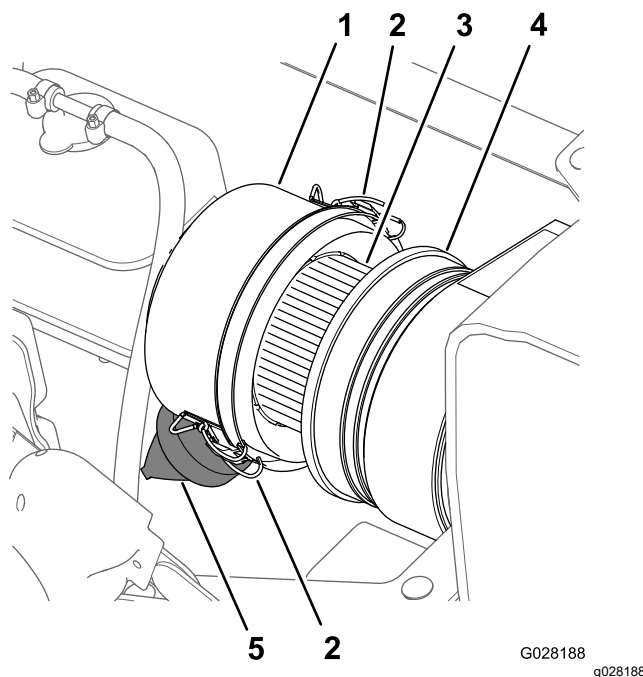
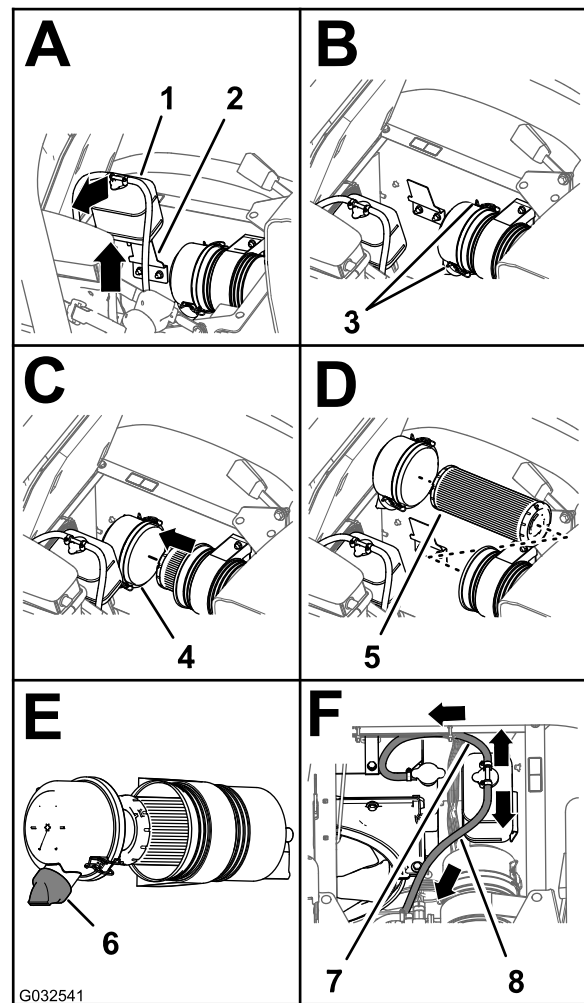

Figure 64
Figure 65
3. Clean the dust cap and air-cleaner body (Figure 64).
4. Check the air-cleaner body for damage that could cause an air leak (Figure 64).
5. Squeeze the dust valve to clear it of dirt, dust, and debris (Figure 64).
7. Check the air-filter element for excessive accumulation of dust, dirt, and debris (Figure 64).
8. Install the dust cap onto the air-cleaner body and secure the cap with the 2 latches (Figure 64).
2. Clean the dust cap and air-cleaner body (Figure 64).
3. Lift the coolant-overflow tank up and off the tank-support bracket (Figure 65).
4. Loosen the 2 latches that secure the dust cap to the air-cleaner body (Figure 65).
6. Clean the inside of the dust cap, air-cleaner body, and dust valve with a damp rag (Figure 64 and Figure 65).
7. Insert the air-filter element into the air-cleaner body (Figure 65).
8. Install the cover onto the air-cleaner body and secure the cover with the 2 latches (Figure 65).
Note: Ensure that the dust valve is aligned between the 5 to 7 o'clock position when viewed from the end (Figure 65).
9. Align the coolant-overflow tank to the tank-support bracket and seat the tank firmly (Figure 65).
Important: Ensure that the pressure-relief hose is routed forward and down, and the tank-vent hose is routed rearward as shown in Figure 65.